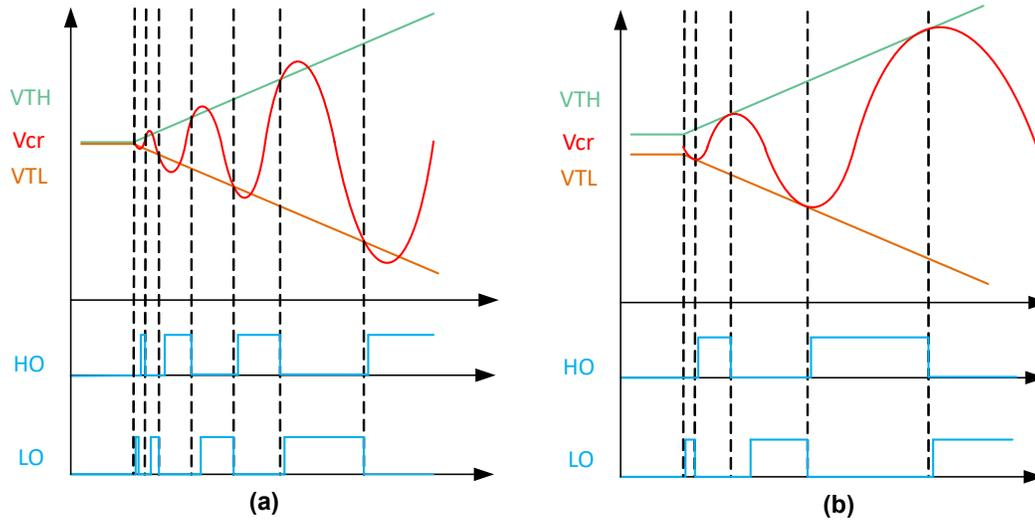

Figure 2-22. a) With Soft Start Initial Voltage (V_{ssinit}) is Zero Volts b) V_{ssinit} not at 0 V
- Figure 2-22 shows that, V_{ssinit} voltage adjusts the maximum startup switching frequency. This helps to prevent the hard switching at the startup which is shown in Figure 2-23.